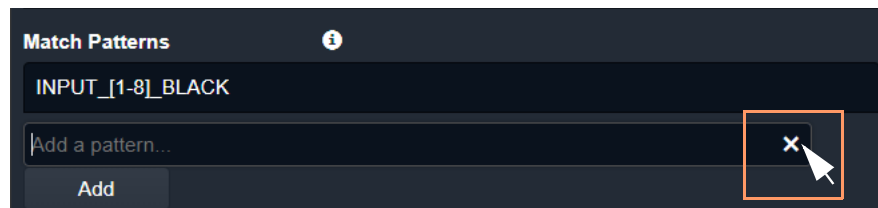

Figure 61: Clear Match Pattern Entry Text Box
- 1 Clear the text entry box by clicking on the **x** that appears when the cursor hovers over the right-hand end of the text box. (See Figure 61.)